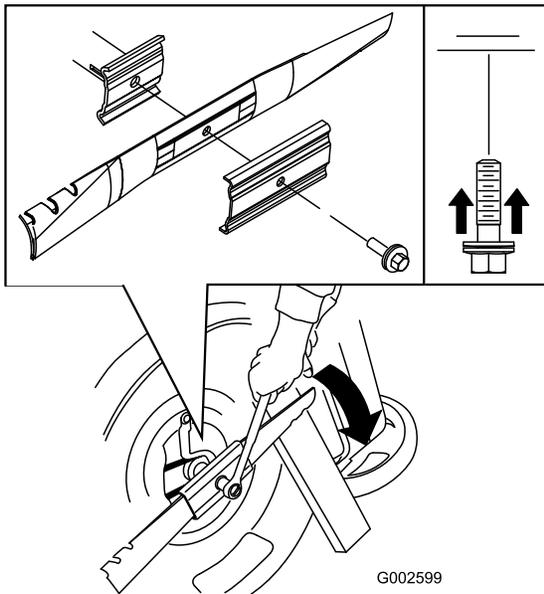

Figure 31
5. Install the new blade (turn the blade bolt clockwise) and all mounting hardware (Figure 31).